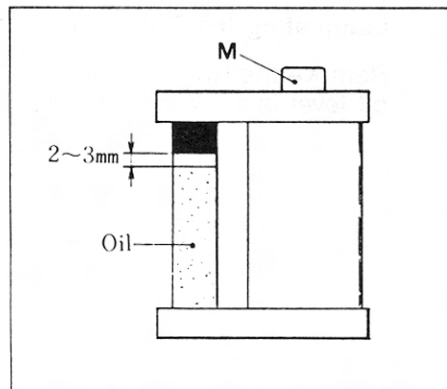

Figure 8
7. Filling the Oil Reservoir (Figures 8, 9 and 10)
With the carriage in the forward position, check the oil quantity at the Sight gauge (on the back of the oil reservoir and as shown in Figure 8). The oil level should be 2-3mm below the mark shown. If the oil level is too low, disconnect the air supply. Remove the cap (M) and add oil. Open the screws shown as (N) to bleed the air; tighten when finished.